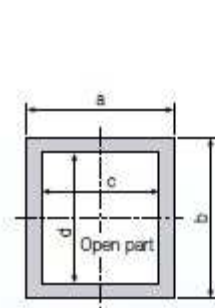

Figure 1
1). Packing (Refer to Figure 1)